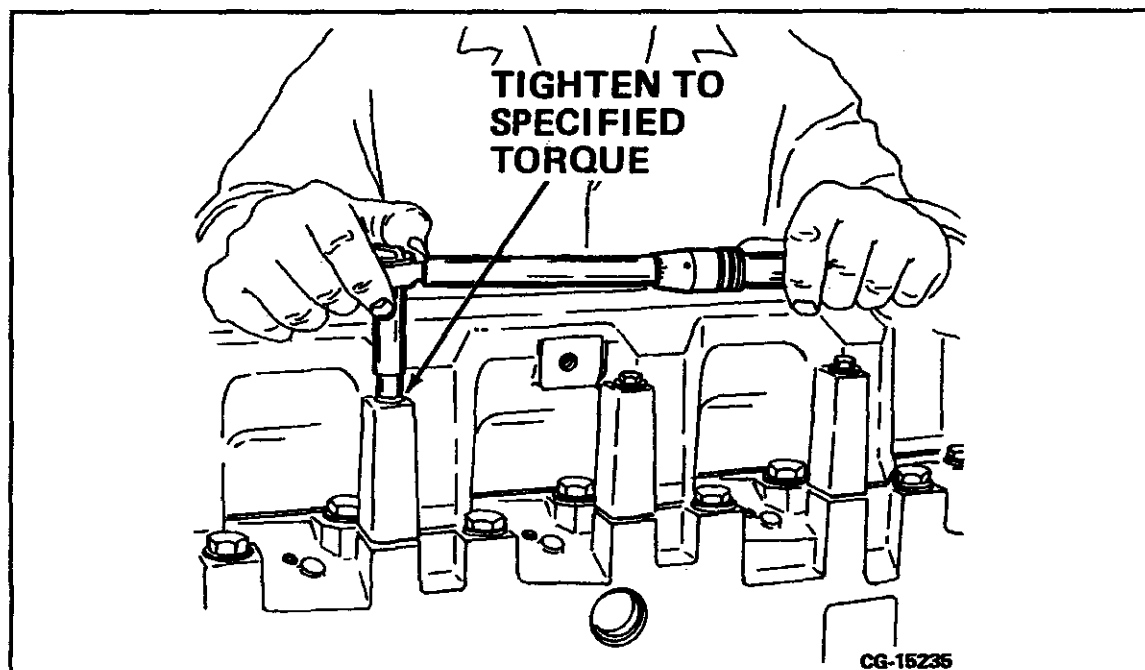

FIGURE 19-48 Install Valve Cover/Intake Manifold
5. Install the valve cover/intake manifold on the cylinder head. Tighten the mounting bolts to 13 lb·ft (17 N·m). Refer to **FIGURE 19-48**.